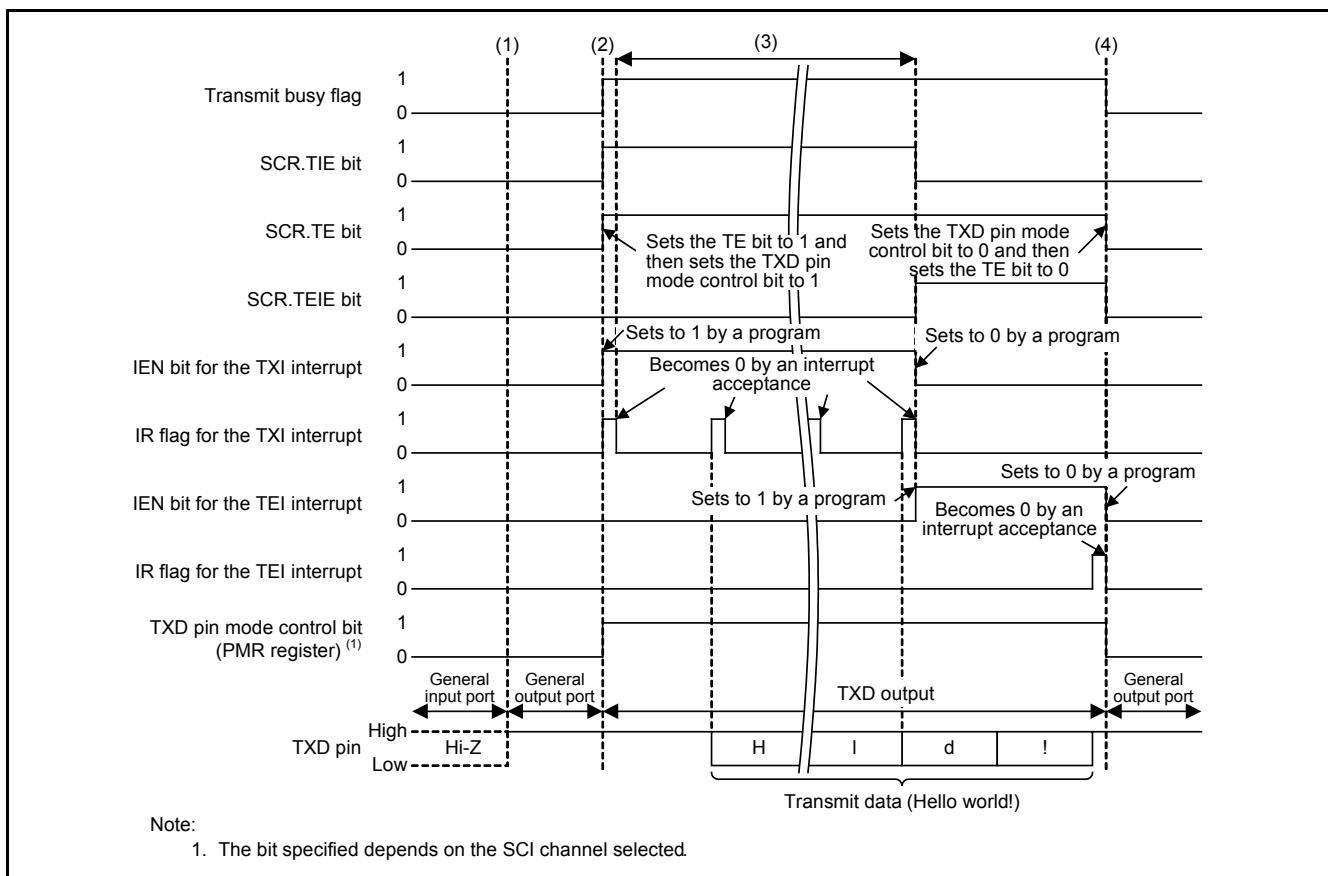

Figure 5.2 Timing of Serial Transmission
Figure 5.2 shows the Timing of Serial Transmission and (1) to (4) in the figure correspond to numbers in the operation descriptions below.
(1) Initialization